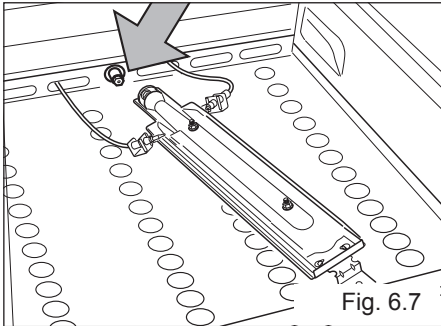

Fig. 6.7
- Withdraw the burner as shown in figure 6.7 and rest it inside the oven. Take care not to damage the wire to the ignition electrode and the safety valve probe.
- Using a 7 mm box spanner, unscrew the injector (indicated by the arrow in fig. 6.7) and replace it by the proper one according to the kind of gas.